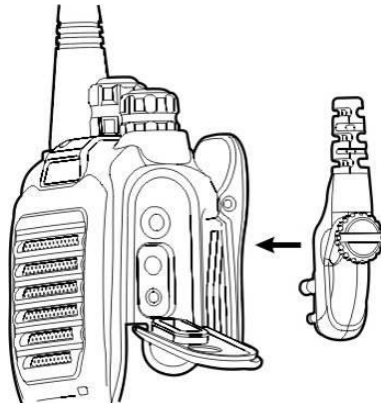

Figure 10
2. Plug the audio accessory firmly into the accessory jack, then secure the screw, shown as figure 10.